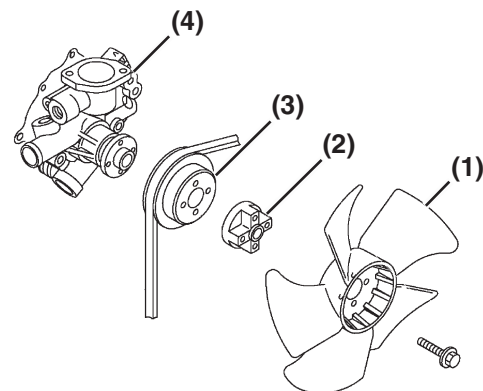

Figure 9-12
7. Reinstall the engine coolant pump V-pulley (**Figure 9-12, (3)**), spacer (**Figure 9-12, (2)**), engine cooling fan (**Figure 9-12, (1)**) and engine cooling fan guard (if equipped).